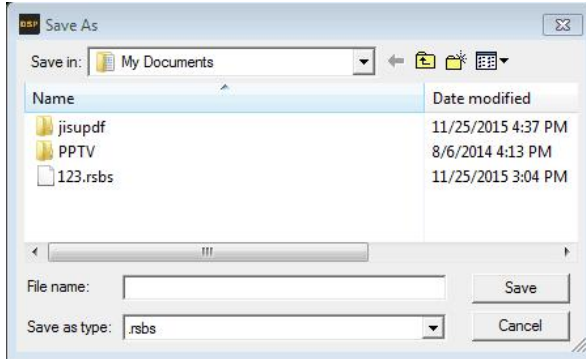

Figure 3.4.11
**Step 2:** Click "Save as PC Presets File " will bring up the file after item Save As dialog window (Figure 3.4.11).